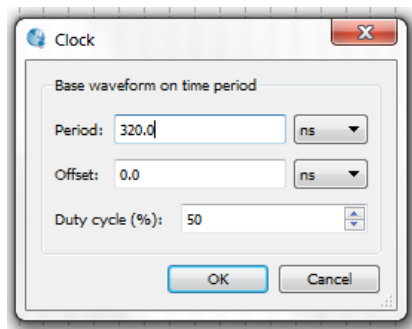

Figure 4.5.7: Overwrite Clock menu
- o The window of Figure 4.5.7 will be displayed.